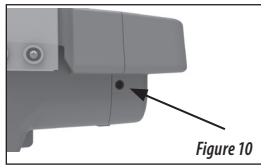

Figure 10
- This product can be set to automatically complete a Cleaning Cycle hourly, every 4 hours, or every 8 hours. You can also perform an immediate Cleaning Cycle by pressing and holding the SELECT button until the "Hourly" LED lights up. Please see Figure 10 for more details.
2. Locate the Power Adapter and plug it in to the outlet on the side of the Detachable Motor. The outlet is located underneath the Motor on the left side when facing the Rake Assembly, as shown in Figure 10.